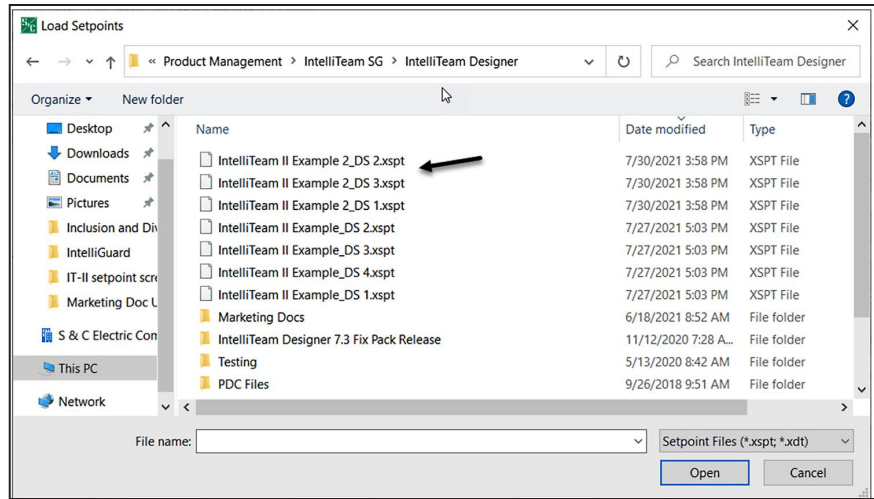

Figure 19. The Load Setpoints dialog box.
STEP 3. Go to the **File>Load Setpoints** menu option. A Windows file-selection screen will open. Navigate to the folder where the .xspt setpoint files were saved and select the file for the device to which IntelliLink software is connected. See Figure 19.